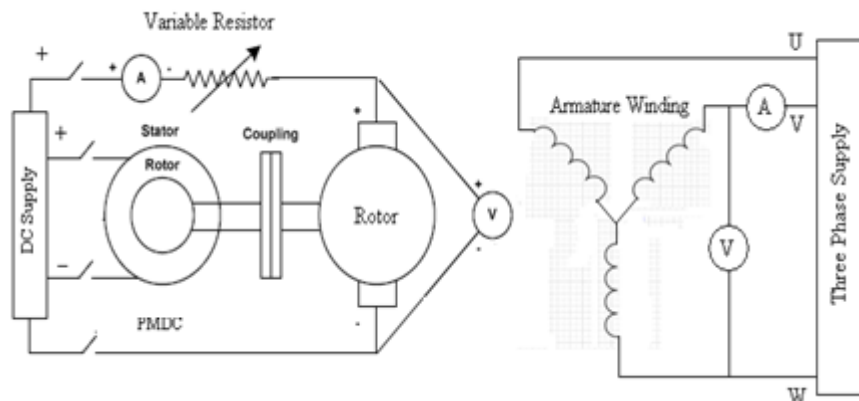

Figure 11.3: Starting of synchronous motor using prime mover
1. Connect circuit as shown in Figure 11.3